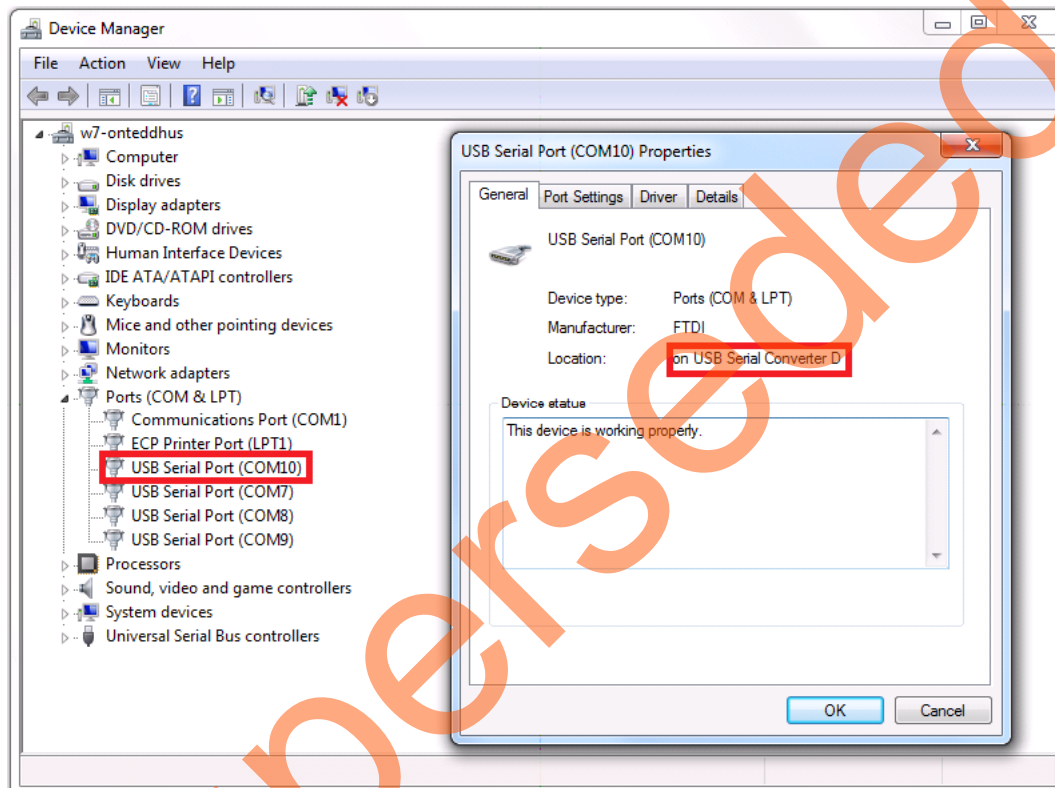

Figure 34 • Device Manager Window
2. Connect the host PC to the J18 connector using the USB Mini-B cable. The USB to UART bridge drivers are automatically detected. Of the four COM ports, select the one with Location as **on USB Serial Converter D**. Figure 34 shows an example **Device Manager** window.